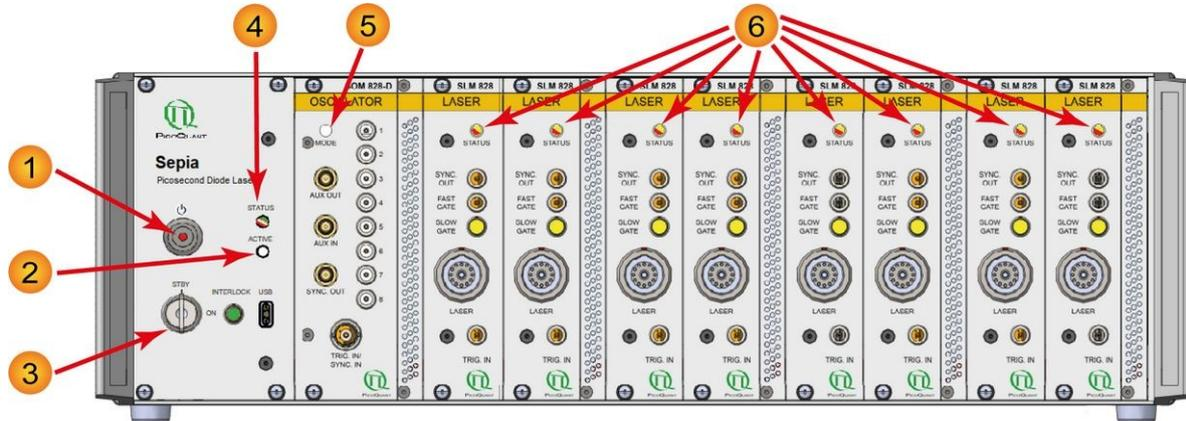

Fig. 19: Sepia PDL 828 Type "L" with SOM 828 module and eight SLM 828 modules
The PDL 828 mainframe is controlled from a PC using a USB 2.0 connection (see Fig. 19).
- Key switch (item 3 in Fig. 19) is set to the "LASER LOCKED" (horizontal) position.
Fig. 19 shows the indicators and controls available on the front panel of a PDL 828 mainframe:
**CAUTION!** Do not connect or disconnect any laser head unless the PDL 828 mainframe is completely powered down and the *Laser Active* indicator (item 2 in Fig. 19) is off.